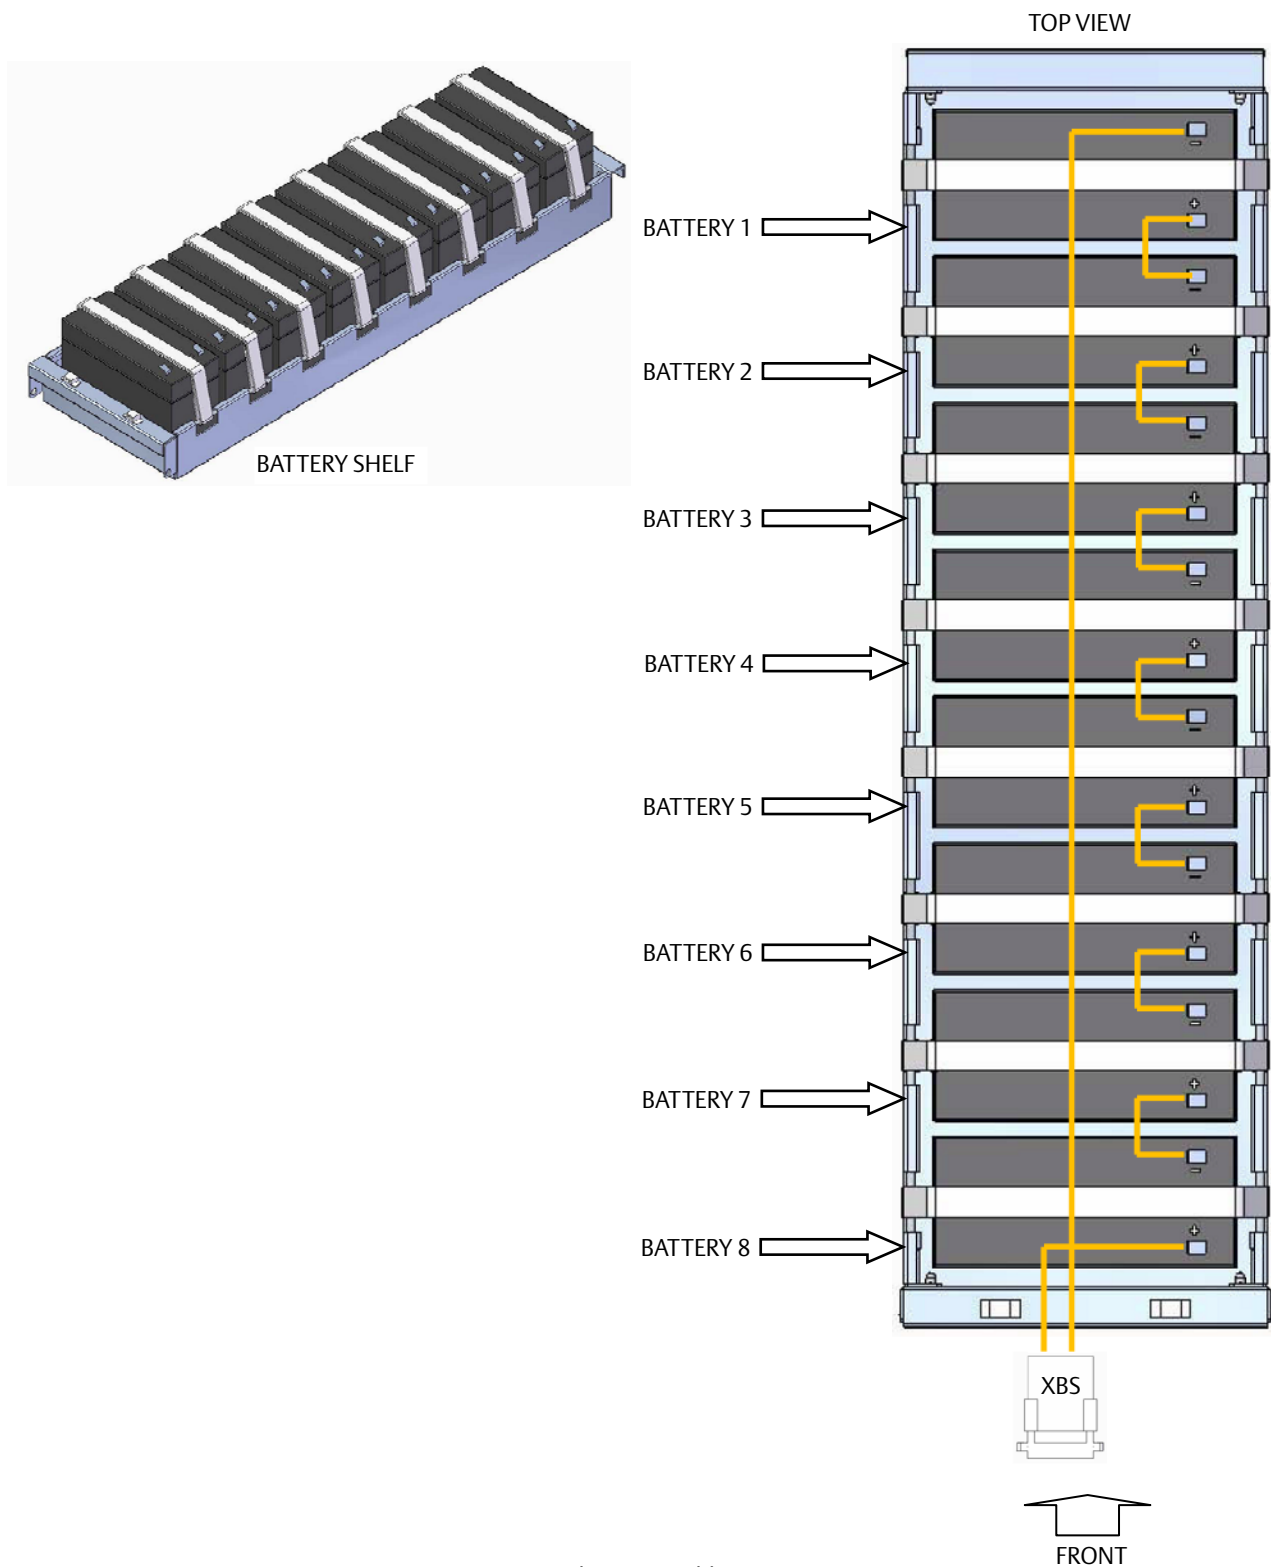
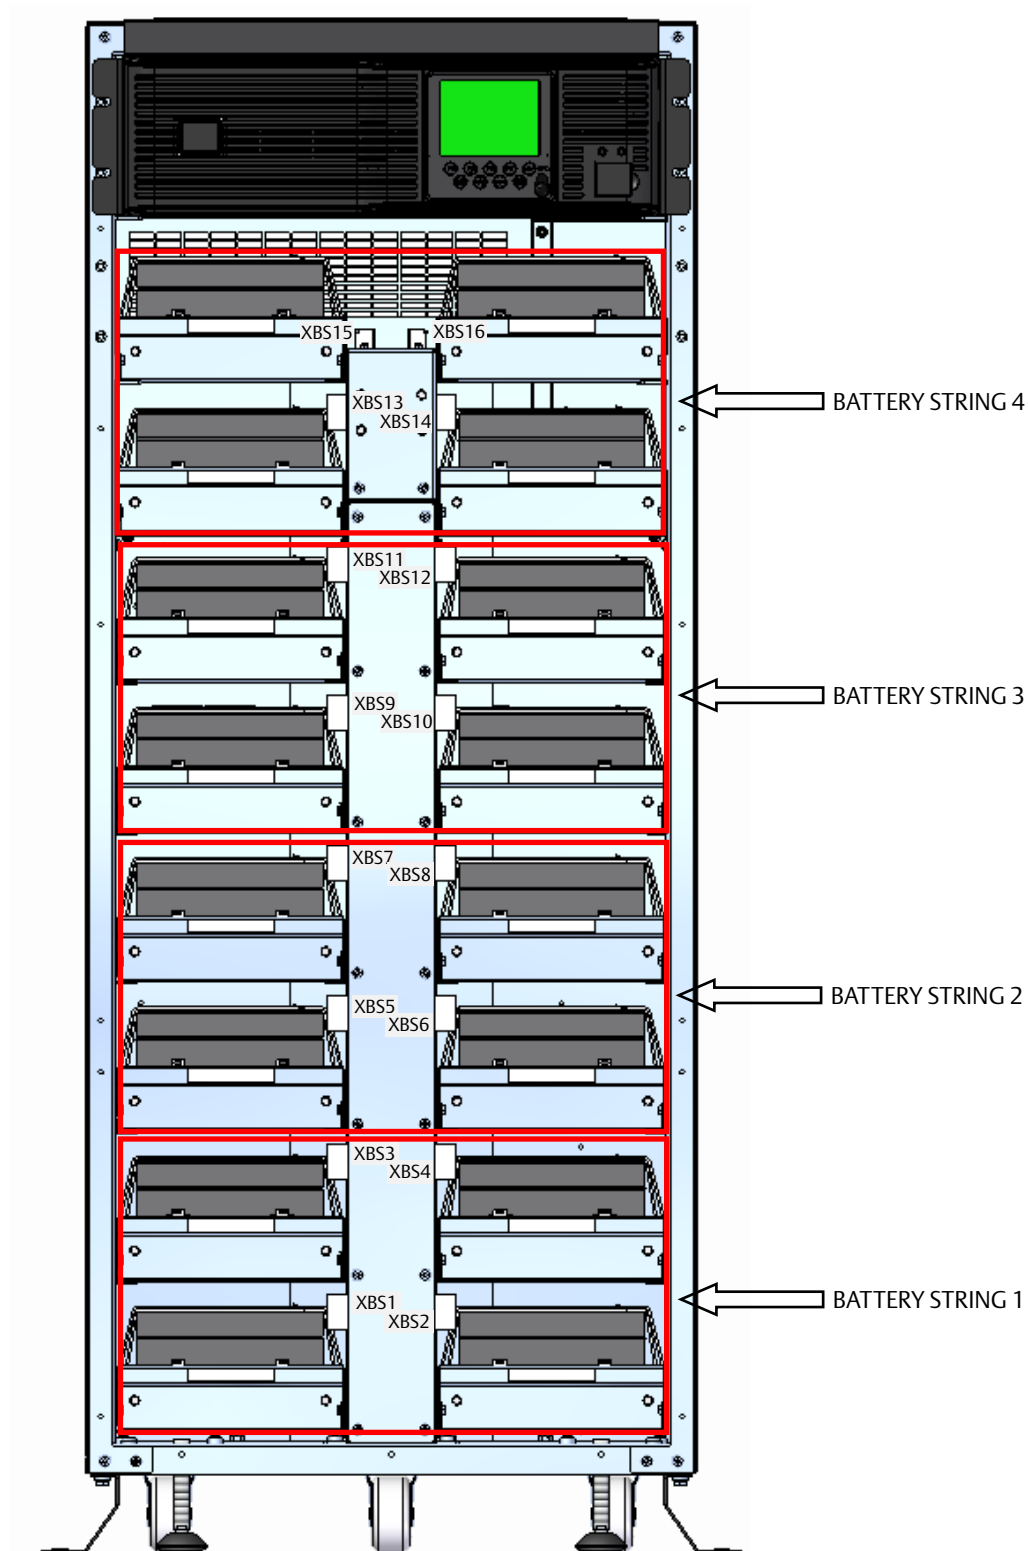

Figure 2-1 Internal Battery Cable Connection
Figure 2-2 Internal Battery Cable Connection
3. Make the ground connections (PE).
9. To connect the cables for the internal batteries, refer to Figure 2-1 and Figure 2-2. To connect the cables for the external batteries, refer to the "Battery Installation Manual".
ARRANGE THE BATTERIES AND CONNECT THEM AS ILLUSTRATED IN Figure 2-1.
CONNECT THE BATTERY CABLES AS ILLUSTRATED IN Figure 2-2.